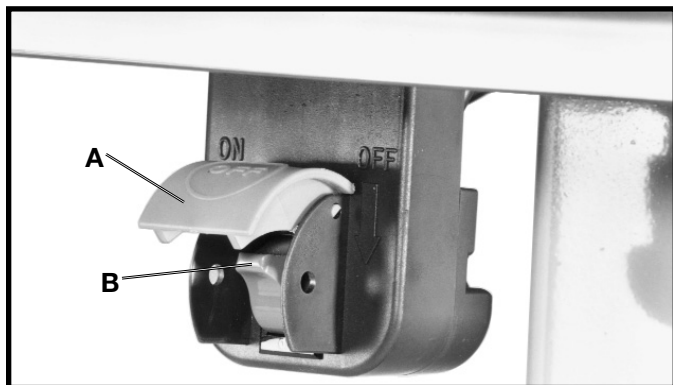

Fig. 41
1. The on/off switch is located underneath the switch shield (A) Fig. 41. To turn the saw "ON", move switch trigger (B) to the up position.